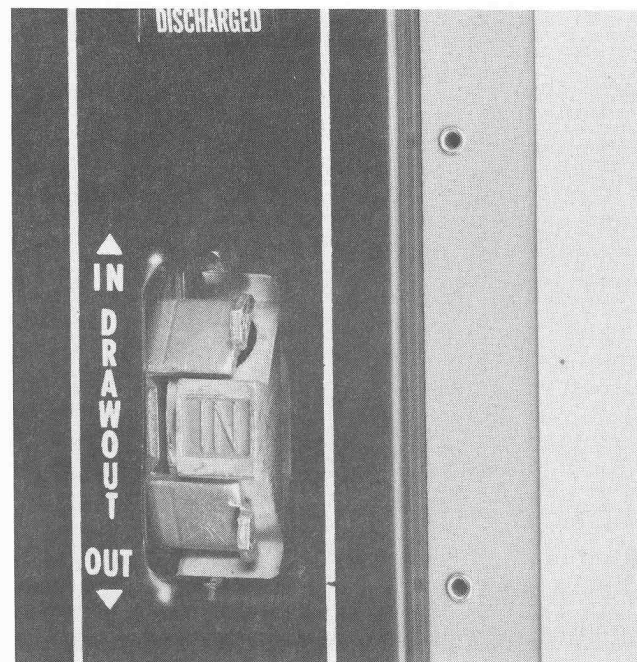

Figure 6
12. On a draw-out breaker, charge stored energy mechanism, close breaker and move draw-out interlock plate to the left. Breaker will trip. D/O interlock plate must be fully reset to the right before operating breaker to prevent trip-free operations. (Figure 6).